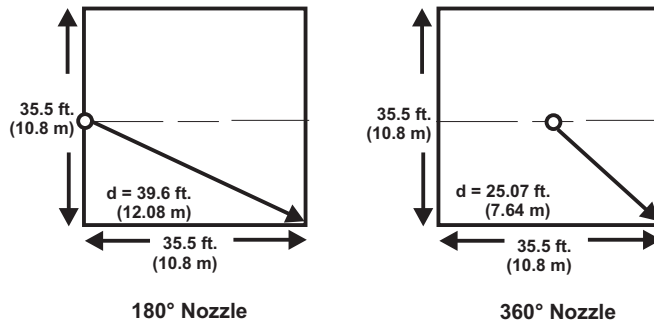

Figure 3-5. Nozzle Placement and Coverage
- **180° Nozzles**-180° nozzles must be located 6 +/- 2 inches (152 mm +/- 51 mm) from a wall, with the orifices directed away from the wall. The nozzle shall be located as close to the center of the wall as possible, but at least 1/3 of the way along the wall. 180° nozzles have a maximum coverage area defined as a square that can be inscribed in a semicircle of distance 39.8 ft (12.1 m, diagonal of a rectangle 17.8 ft x 35.6 ft). Refer to Figure 3-5 for further information. 180° nozzles may be used in a back-to-back configuration. The nozzles should be placed 1 to 2 ft (0.3 m to 0.6 m) apart.
- **360° Nozzles**-360° nozzles must be located as close to the center of the enclosure as possible. 360° nozzles have a maximum coverage area defined as any square that can be inscribed in a circle of radius 25.2 ft (7.7 m, diagonal of a square 17.8 ft x 17.8 ft). Refer to Figure 3-5 for further information.